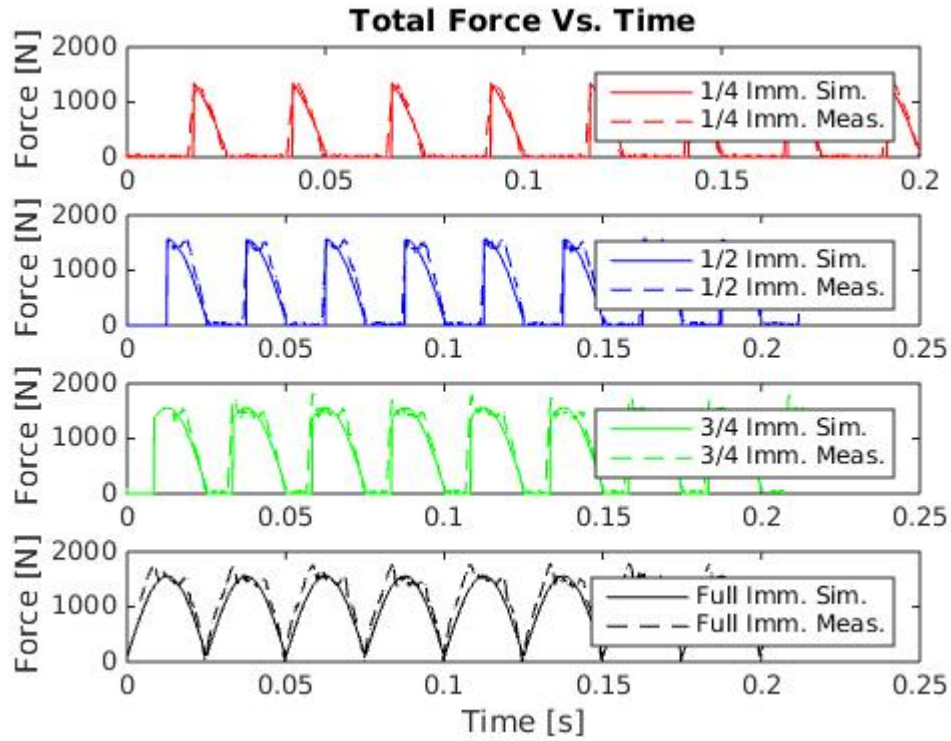

Figure 5: Total Forces for all Immersions with Time
- Figure 5 is the graph of total force for all the immersions
- The total force for half immersion in figure 5 is noted to be slightly shifted when compared to the quarter immersion
- The total force for three quarter in figure 5 is noted to be slightly more shifted when compared the the half immersion and even more when compared to the quarter immersion
- The total force for full immersion in figure 5 is noted to be slightly more shifted when compared to the three quarter immersion
- Total force (figure 5) shows an expanding profile from quarter to full immersion where the full immersion is a sinusoidal wave